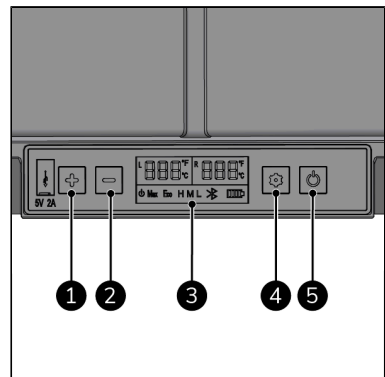

Figure 18.
1. Press the ON/OFF button (Figure 18, pos. 5) for 5 seconds.
1. Press the settings button (1x) (Figure 18, pos. 4) to change the temperature of the cooling compartment ('L') or press the settings button (2x) (Figure 18, pos. 4) to change the temperature of the freezing compartment ('R'); the display starts blinking.
2. Press the '+' or '-' button (Figure 18, pos. 1 and 2) to set the desired temperature.
1. Press the settings button (3x) (Figure 18, pos. 4) to select °F, °F starts blinking.
1. Press the settings button (4x) (Figure 18, pos. 4) to select °C, °C starts blinking.
1. Press the settings button (7x) (Figure 18, pos. 4) until H, M or L flashes.
1. Press the settings button (5x) (Figure 18, pos. 4) until MAX or ECO flashes.
2. Press the settings button (Figure 18, pos. 4) again to change the cooling capacity.
1. Switch off the device by pressing the ON/OFF button (Figure 18, pos. 5) for 5 seconds.